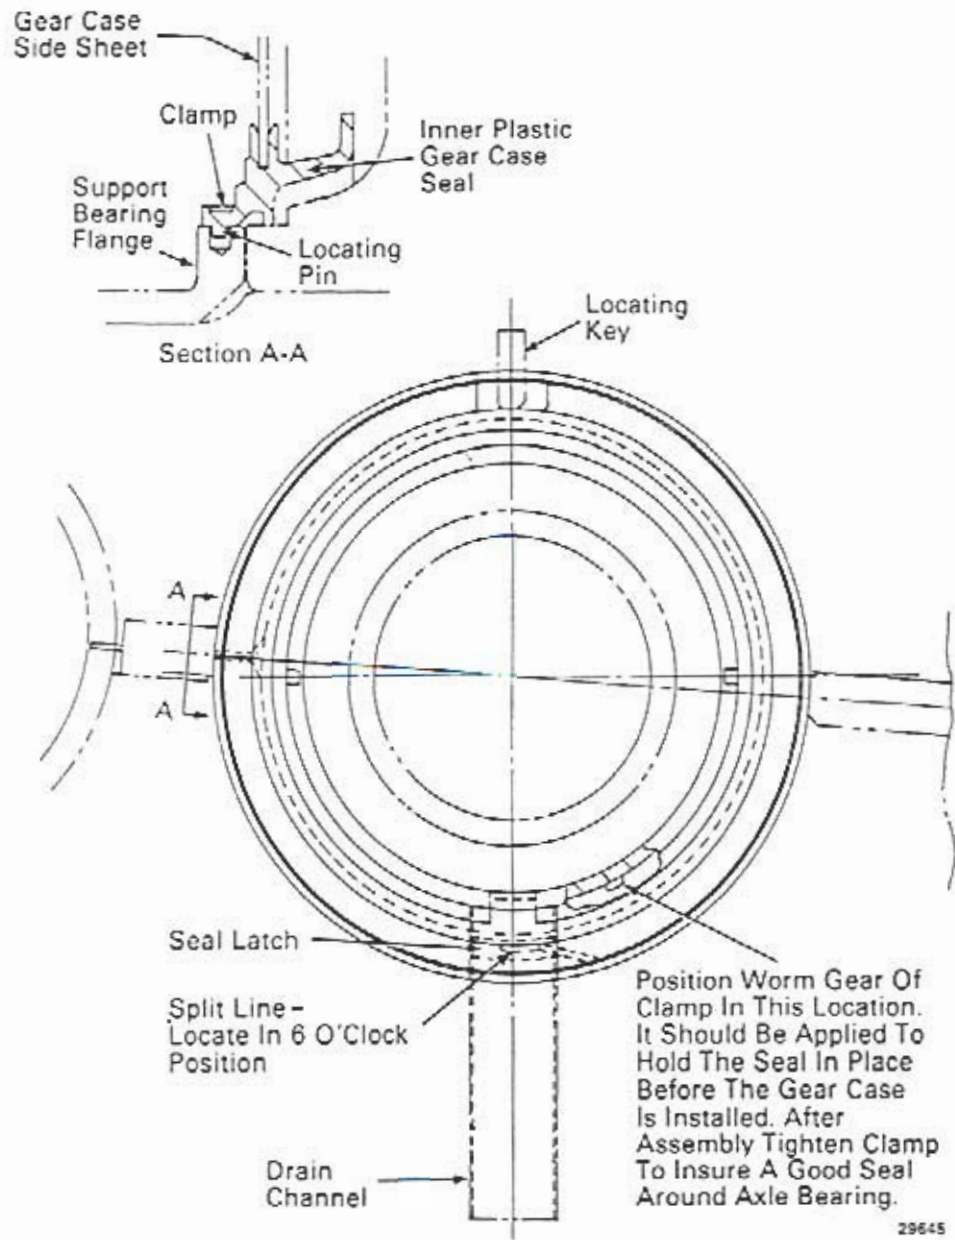

Fig.9 - Inner Seal (Traction Motor Side)
3. Install the seals onto the motor/axle assembly around the axle with outer seal 9560005 between the gear and wheel and inner seal 9560006 between the gear and support bearing. The seals are flexible and can be twisted or "snaked" into position. Fasten the seal latches making sure that they are at the 6 o'clock position. The pins on the inner seal should be engaged with the holes in the support bearing flange Fig. 9. Check to see that the notch on each seal will engage with the locating keys on the upper gear case half, Figs. 9 and 10. Finally, the lip on the outer seal should ride on the wheel hub and should not be folded under.